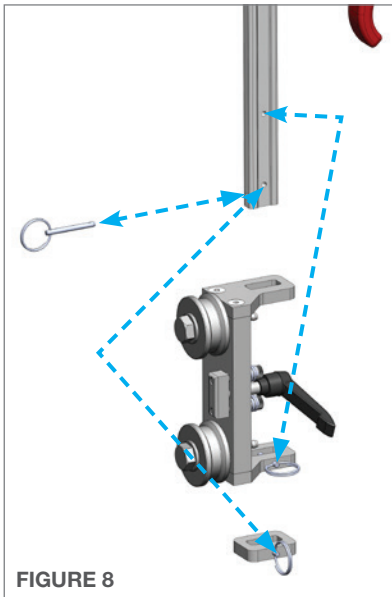

FIGURE 8
- Remove Quick Release Pins from the bottom of the Fin Fan Clamps and slide the Lower Support Brackets and Stops on until the holes for the Pins line up with the holes on the Clamp. Secure the Quick Release Pins in place. **(Figure 8 & 9)**